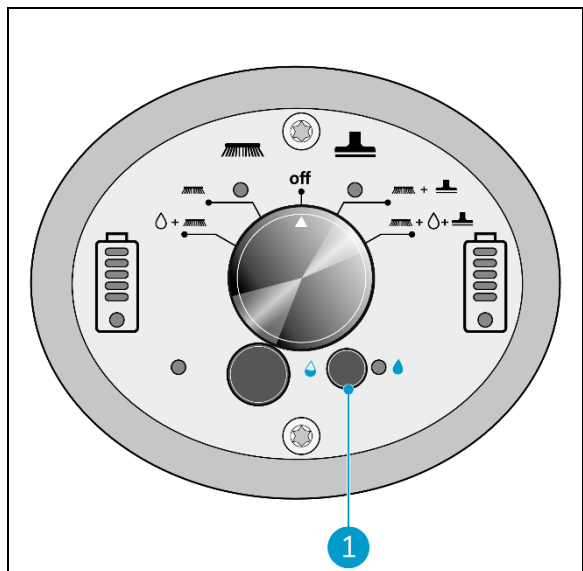

Figure 26
1. Turn on the ECO mode by pushing the ECO button (Figure 26, pos 1).